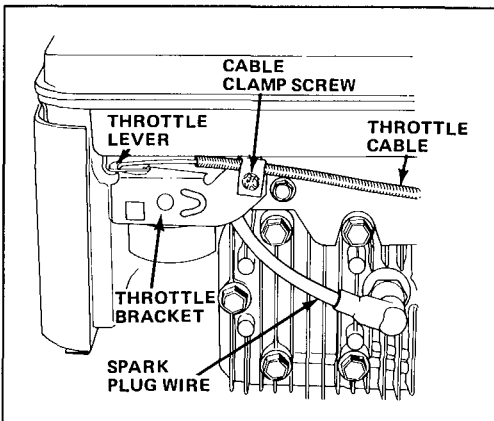
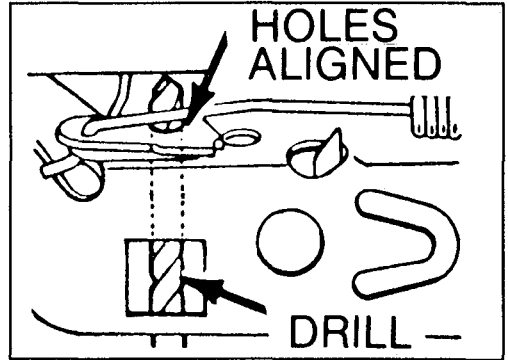

Figure 20
Figure 21
2. Push spark plug wire onto spark plug (Fig. 20).
1. Stop engine and pull wire off spark plug (Fig. 20).
1. Stop engine and wait for engine to cool. Pull wire off spark plug (Fig. 20).
3. Loosen cable clamp screw until throttle cable slides (Fig. 20). Align holes in throttle lever and throttle bracket using a 1/8" diameter drill (Fig. 21). Tighten cable clamp screw to lock adjustment in place.
1. Stop engine and pull wire off spark plug (Fig. 20). If necessary, remove grass bag.